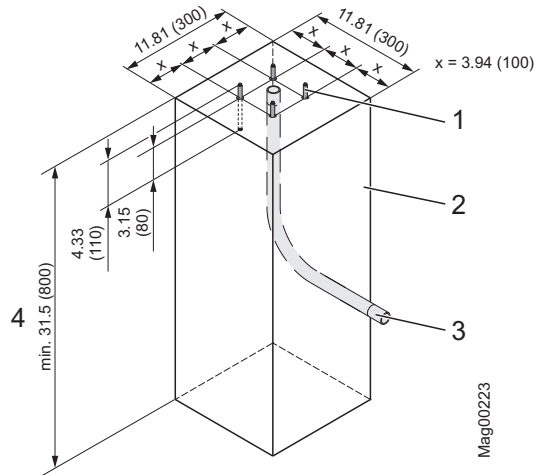

Fig. 16: Foundation plan for light barrier post
→ See page 52, Fig. 13 and page 56, Fig. 16.
1. Dig foundation hole pursuant to Fig. 13 and Fig. 16.
2. Place empty conduit pursuant to Fig. 16 in the foundation hole.
4. Fill concrete foundation pursuant to Fig. 16.